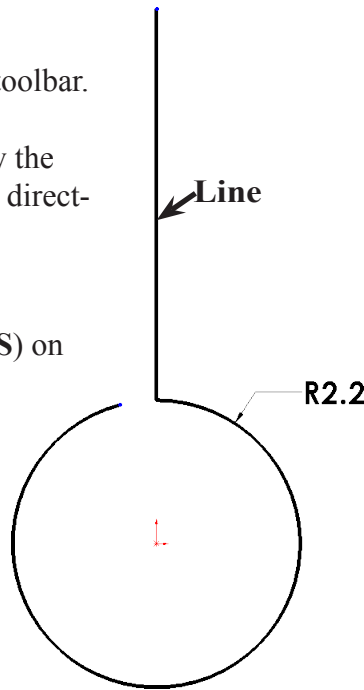
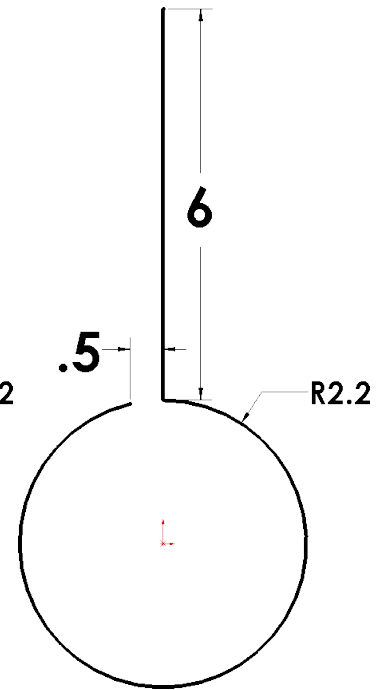

Fig. 4
Fig. 5
Step 1. Click **Line**  (L) on the Sketch toolbar.
Step 2. Draw line as shown in **Fig. 4**. Draw the line up from the arc endpoint that is directly above Origin.
Step 3. Click **Smart Dimension**  (S) on the Sketch toolbar.
Step 4. Dimension arc gap **.5** and the line **6** as shown in **Fig. 5**. To dimension the gap in arc, click both endpoints of arc, then move cursor out away and click. To Smart dimension the line, click the line, then move the cursor out away from the line and click.